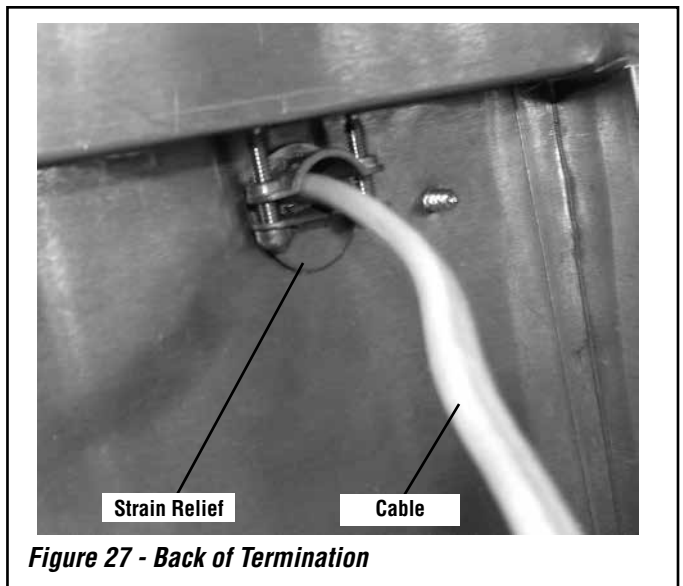

Figure 27 - Back of Termination
- Refer to *Figure 27 on Page 22* and install the electrical hardware on the ends of the cable. Male terminals on the Black and White wires, and ring terminals on the ground wire.
- Loosen the strain relief on the termination shown in **Figure 27**. Pull the pigtail in and shorten it to fit within the junction box cover.